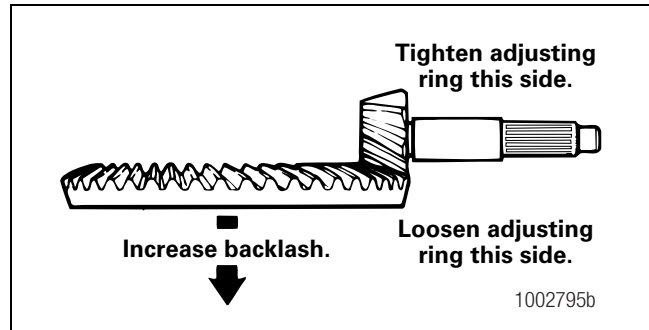

Figure 5.45
- **To increase the backlash:** Move the ring gear away from the drive pinion. Figure 5.45.